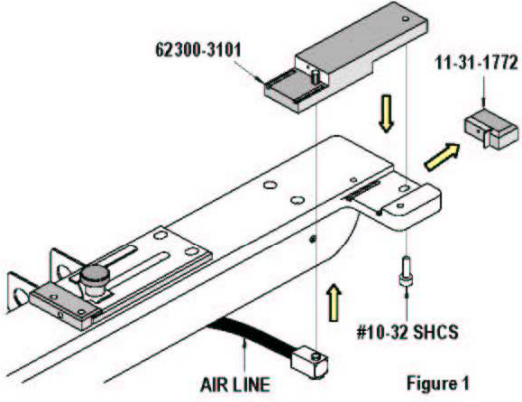

Figure 1
3. Remove the air nozzle. See Figure 1.